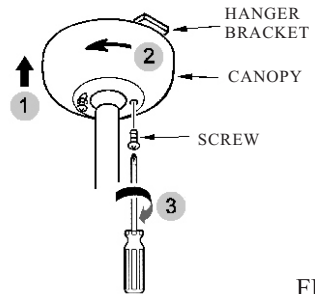

FIG.8
4. Mount the canopy on the two screws in the hanger bracket and twist the canopy, so the screw heads hold the canopy in place. (see Fig.8)